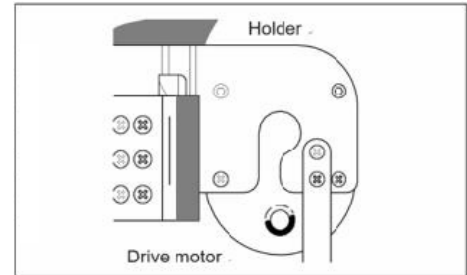

Figure 1
- Fix the drive motor to the holder tightly with screws for the drive motor (Figure 1).